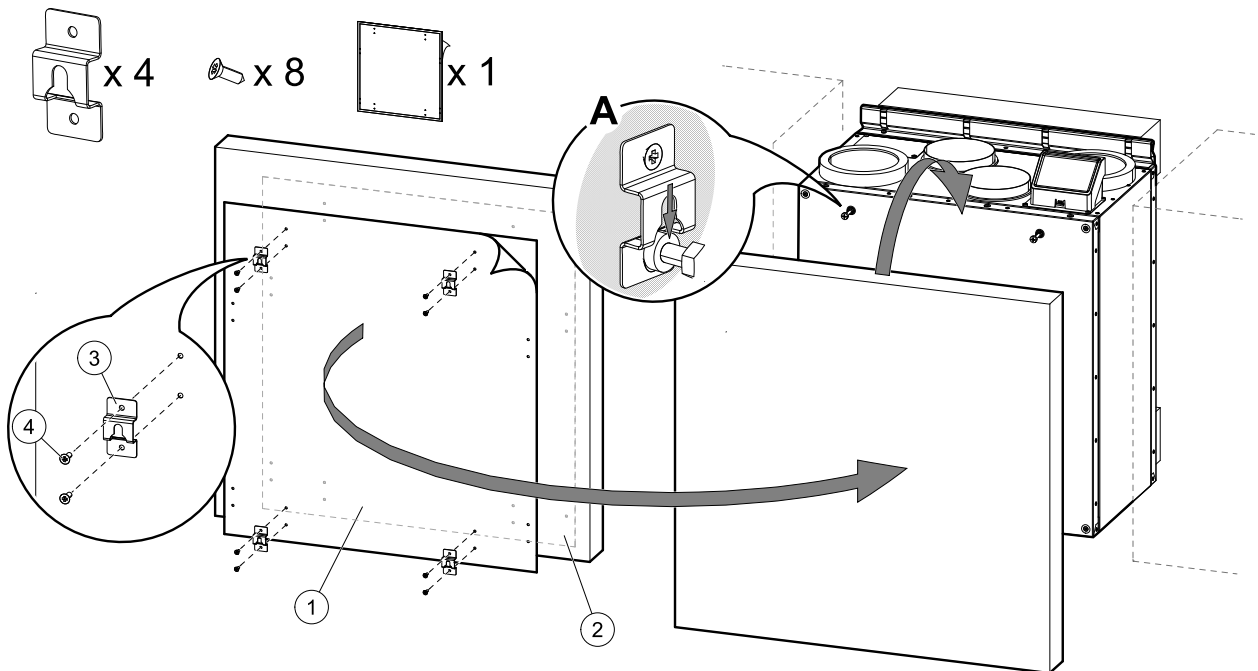

Fig. 20 Installation of hooks and mounting of the kitchen furniture panel
2. Sticker with marked holes (figure 20, pos. 1) is included with the unit. Holes mark spots for screws to secure hooks. Place the sticker on a back of the kitchen furniture panel, figure 20, pos. 2), adjust position of the sticker according to the panel size and position of the unit between cabinets. Size of the sticker is the same as the unit.
Once correct position is found, attach four hooks (figure 20, pos. 3) by fastening each with two screws (figure 20, pos. 4). Hang the kitchen furniture panel on protruding bolts (figure 20, pos. A).